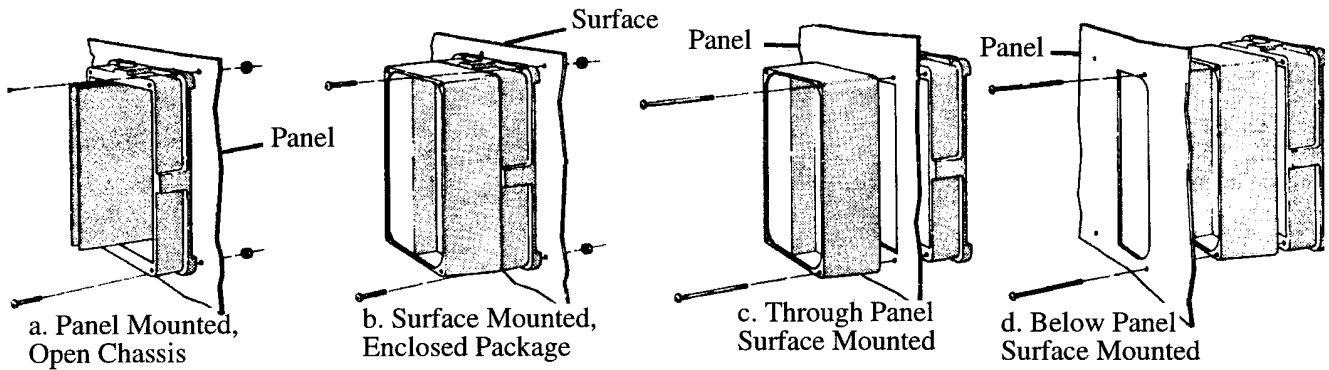
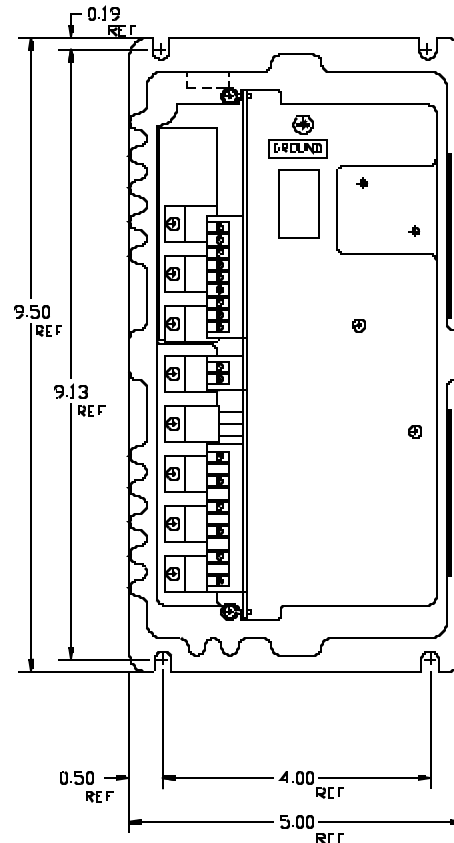

FIGURE 2-1. CONTROLLER MOUNTING CONFIGURATIONS, MODELS 2231 AND 2232
FIGURE 2-2. CONTROLLER MOUNTING DIMENSIONS, MODELS 2231 AND 2232
- The controller may be surface mounted or panel mounted as shown in Figure 2-1, page 2-6. Mount the controller. Mounting dimensions are shown in Figure 2-2, page 2-7.